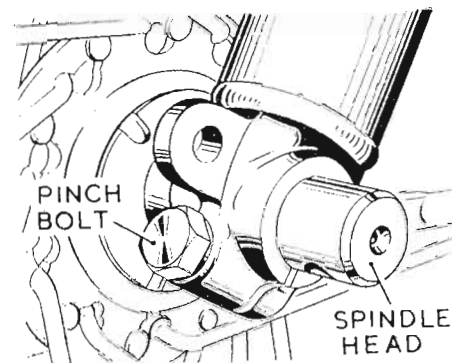
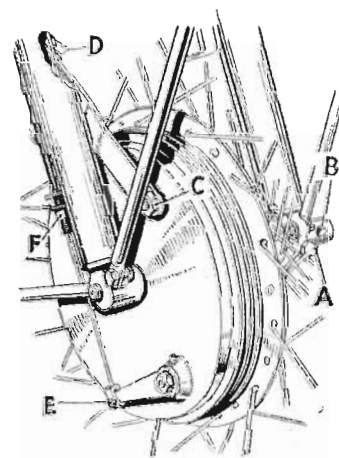

Fig. 18. Removing the front wheel *(Special)*
Fig. 19. The front wheel assembly *(Special)*.
brake plate (Fig. 19). First slacken the ring locknut on the adjuster sleeve, make the required adjustment and retighten the ring nut against the face of the abutment. Additional finger adjustment is provided at the handlebar lever (Fig. 1).
To remove the front wheel first disconnect the brake cable by withdrawing it from the slotted clevis (E) Fig. 19, and then unscrewing it from the abutment (F). Remove the torque arm nut (C), slacken nuts (D), and release the pinch bolt (A). Insert a stout tommybar through the hole (B) at the head of the wheel spindle and unscrew it from the hub. Note that it has a left-hand thread and unscrews by turning in a clockwise direction (Fig. 18). Support the wheel as the spindle is withdrawn, and when it is clear, the